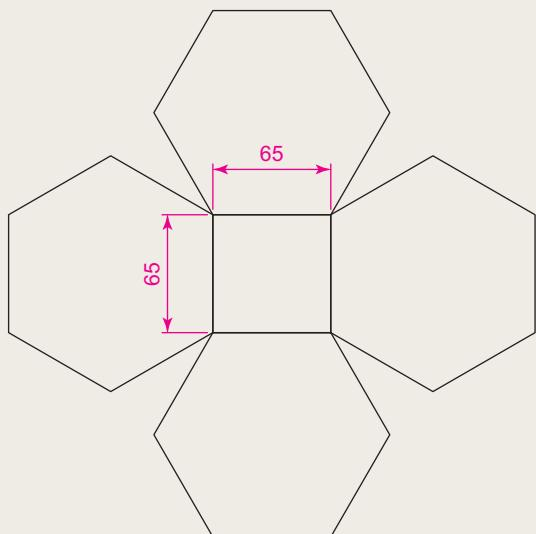

Fig. 3.50 Exercise 6
6. Fig. 3.50 shows a rectangle in the form of a square with hexagons along each edge. Using the **Dimensions** prompt of the **Rectangle** tool construct the square. Then, using the **Edge** prompt of the **Polygon** tool, add the four hexagons. Use the **Object Snap** **endpoint** to ensure the polygons are in their exact positions.